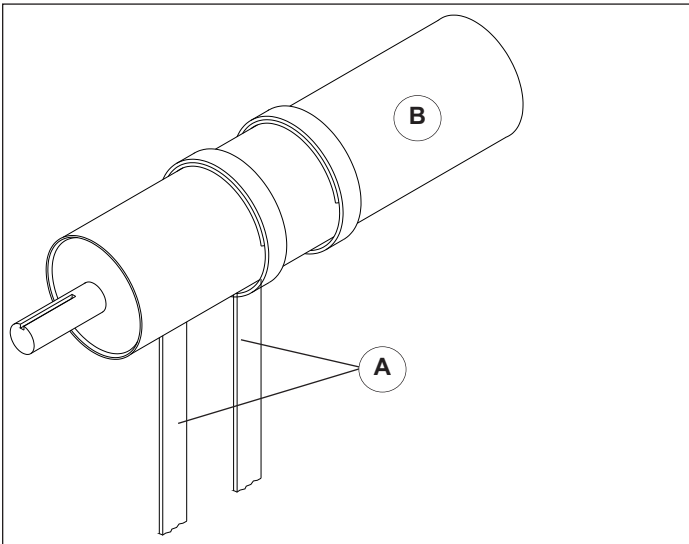

Figure 14.1
Turn the roller tube to get 1 1/2 pre-wraps on the lifting straps, **Figure 14.1**. The lifting straps (K) will always be on the opposite side of the roller tube as the curtain.
Straps MUST roll off the roller tube on the opposite side that the curtain is hanging, Figure 14.1.